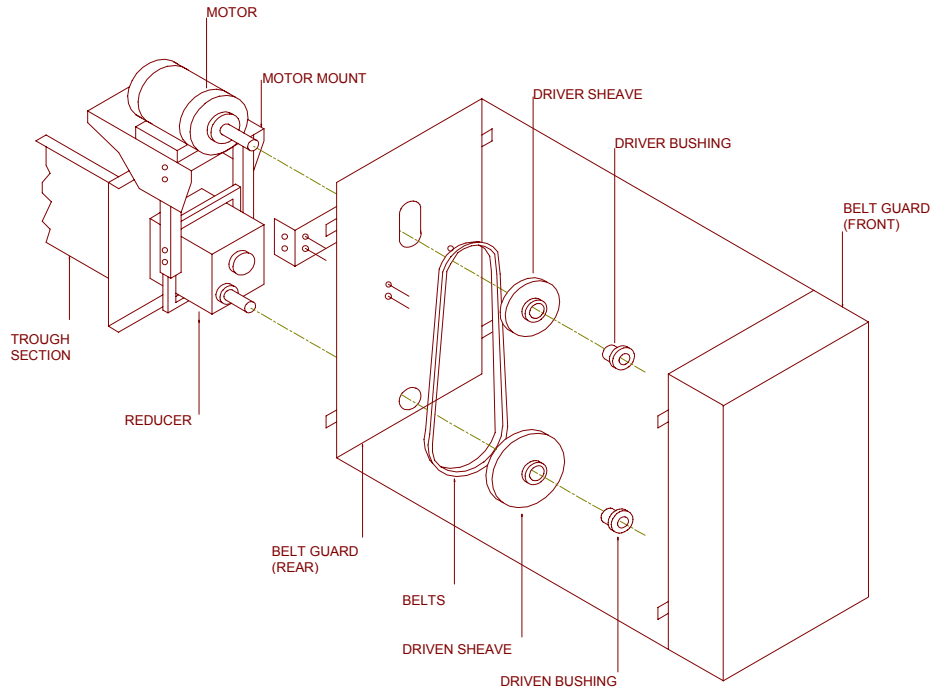

**FIGURE 4**
9. Place next screw section in trough and fit into coupling so that flighting end is about 180 degrees from end of flighting of the first section. (See Figure 4). Install coupling bolts.